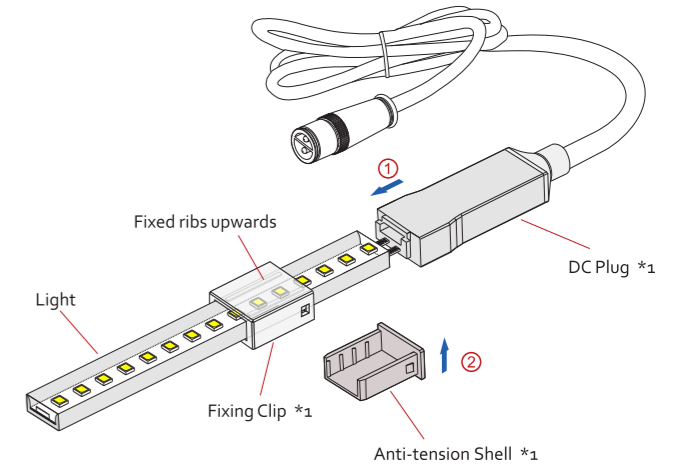

Fig. 4.5
- Fig. 4.5 — Pls doing the assembly according to ① ② ③ ④ ⑤ steps, and make sure the fixing clip's two fixed ribs are upwards.